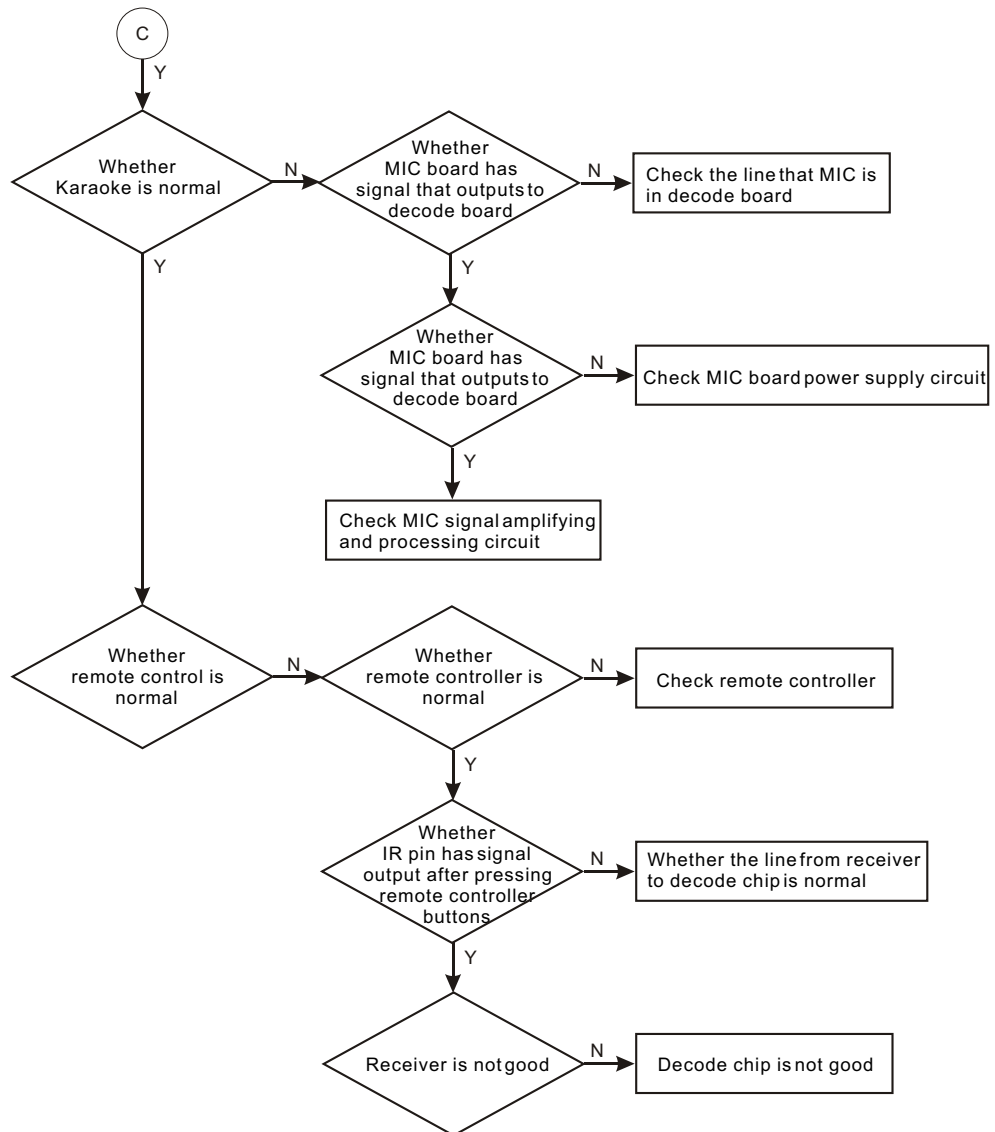

figure 3.3.2.1 Flow chart for whole player troubleshooting
1. Flow chart for whole player troubleshooting is shown as the following figure 3.3.2.1: